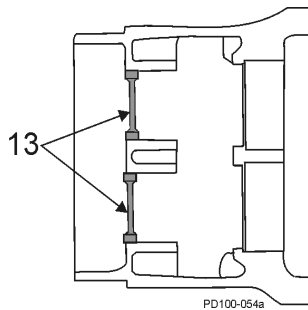

Figure 42 - Remove rear oil seals
9. Press out and discard both rear oil seals in the gear case (Figure 42, item 13).